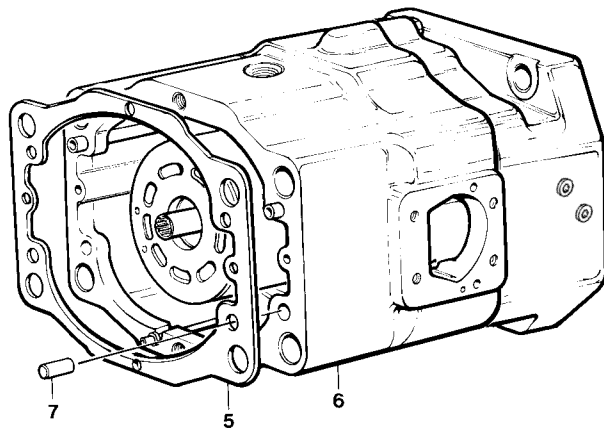

FIGURE 9
See figure 9. Position the pump with open end of the housing assembly (6) facing up. Install new gasket (5) on the housing. Do not use gasket compound.
PARTS LIST FOR FIGURE 9